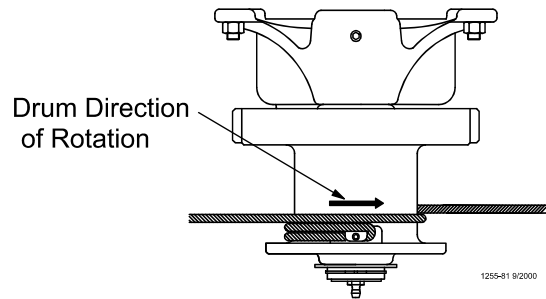

Figure 12. Power Winch Drum Rotation
- Turn the winch drum one full revolution. Guide the cable against the flange at the bottom of the winch drum. The cable must not wrap over itself on the drum, but should be wrapped as close as possible to each previous wrap. See Figure 12.